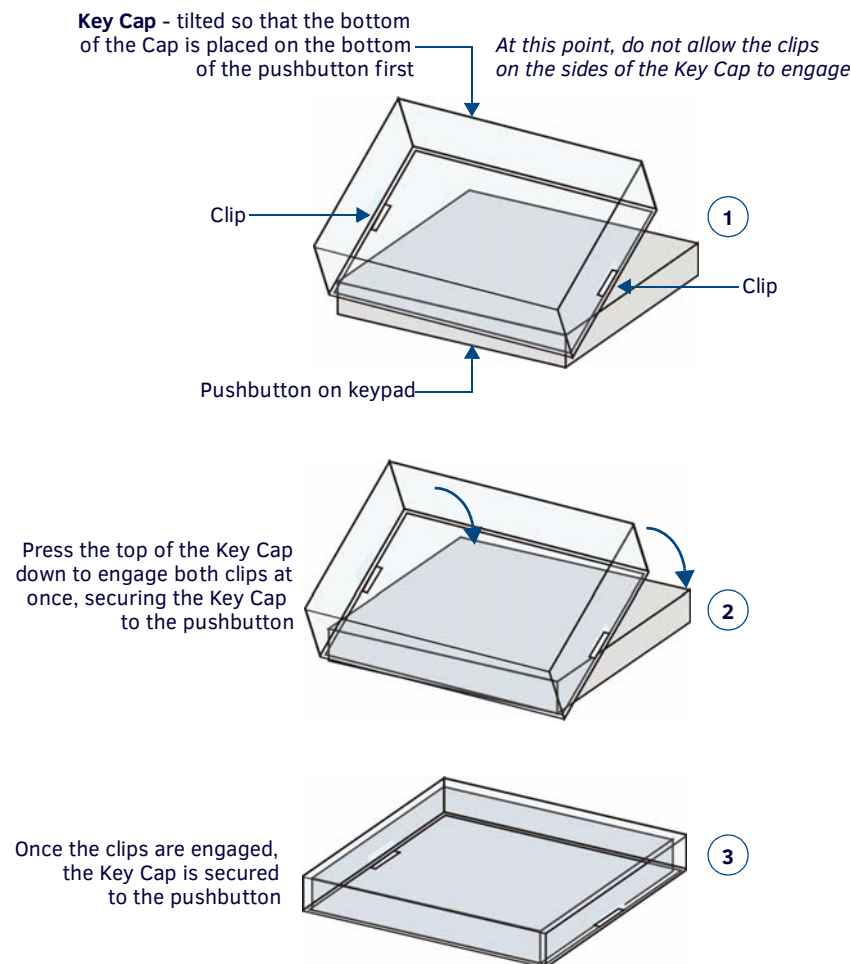

FIG. 11 Placing a Button Label inside a Key Cap
3. Install the Key Cap on the pushbutton (FIG. 11):